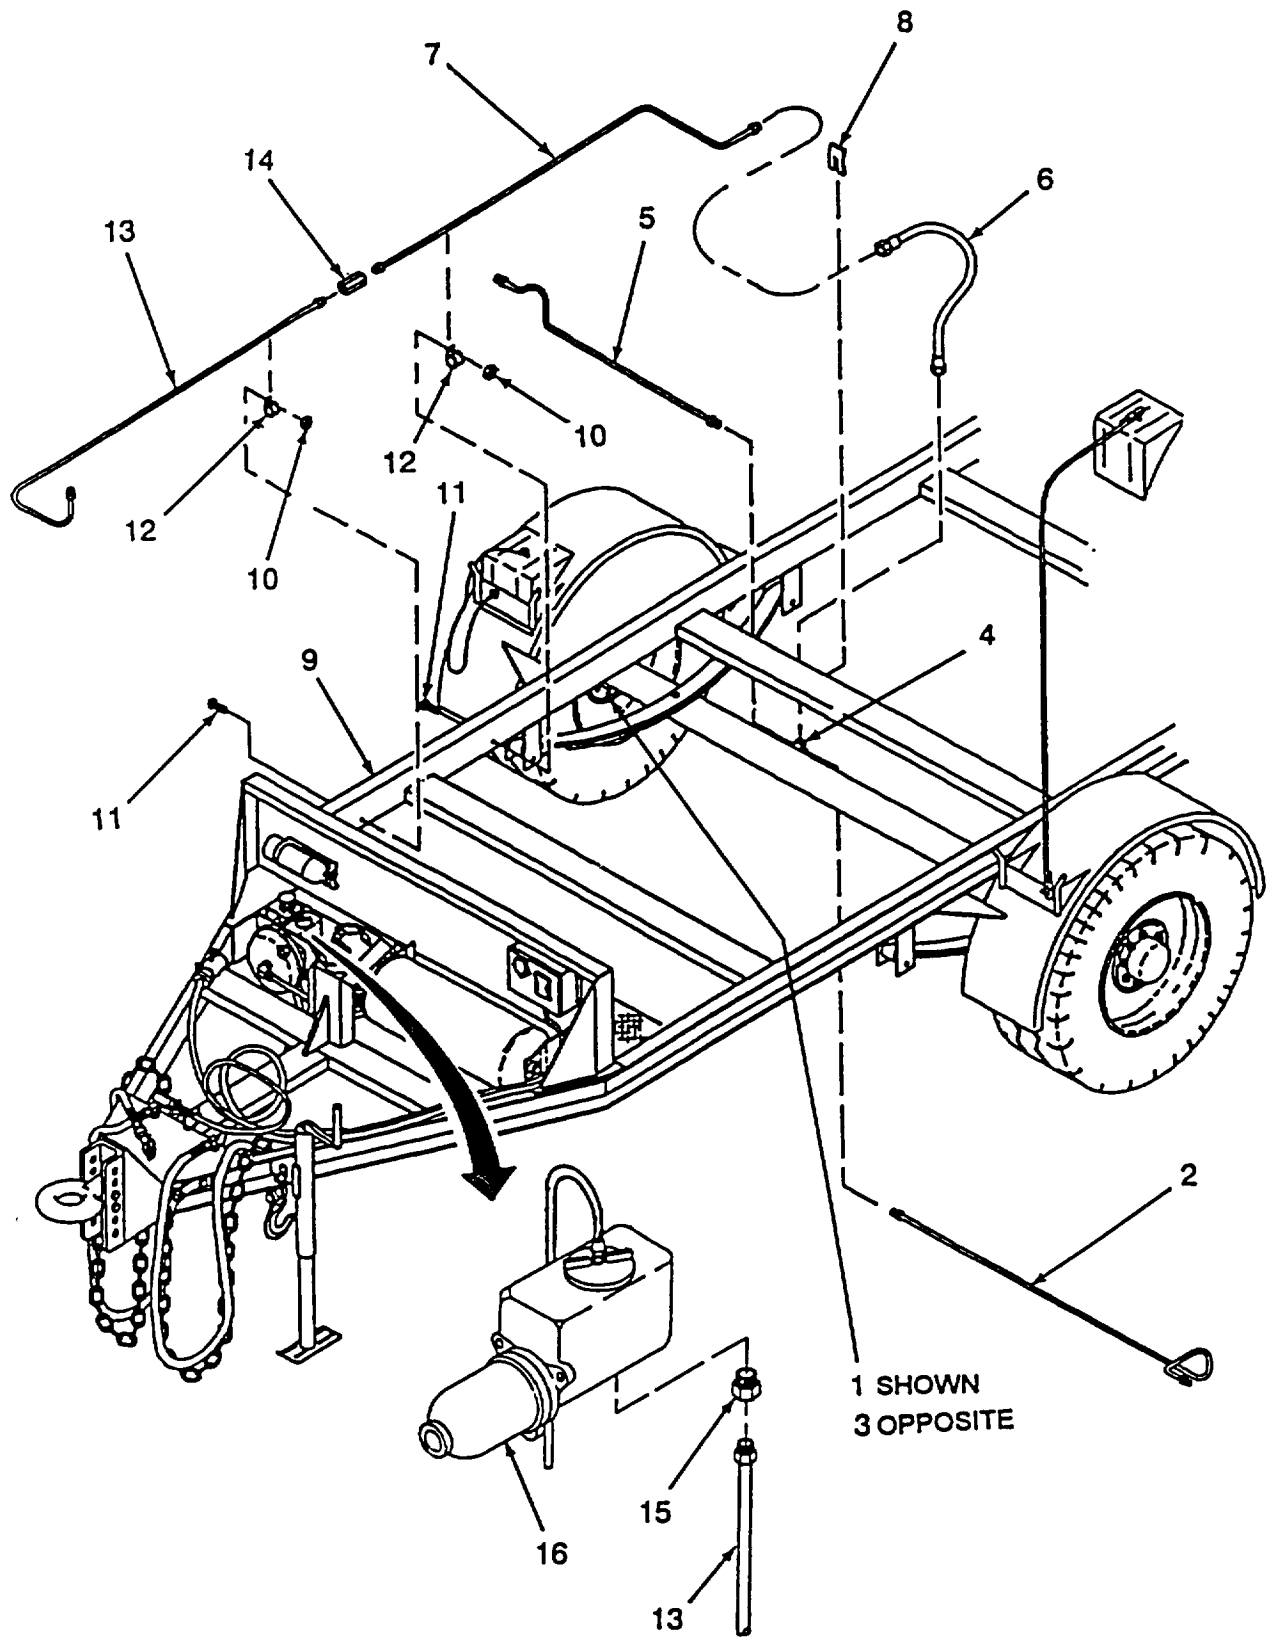

Figure 4-56. Brake Lines
a. Removal. (Refer to Figure 4-56).